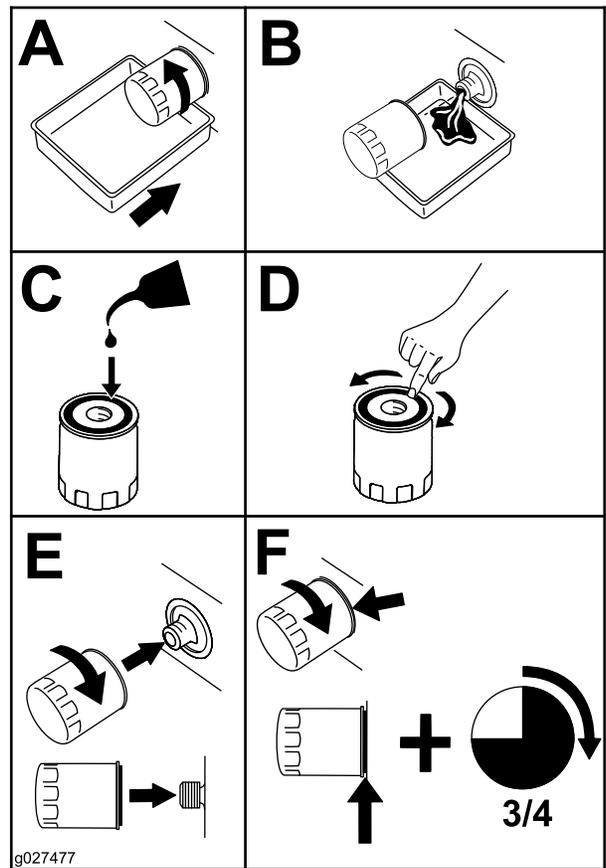

Figure 33
- Change the engine-oil filter (Figure 33).